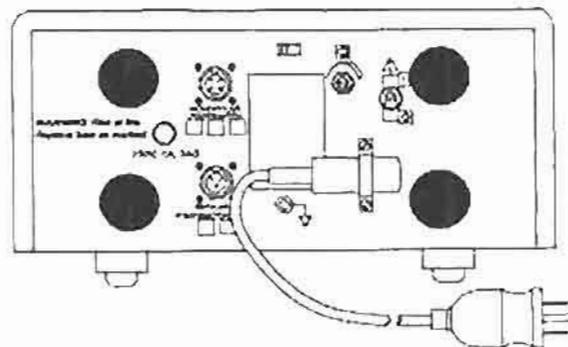

Figure 2-7. Apparatus back panel.
b. The function and location (fig 2-7) of back panel controls, receptacles, and other components are as follows: